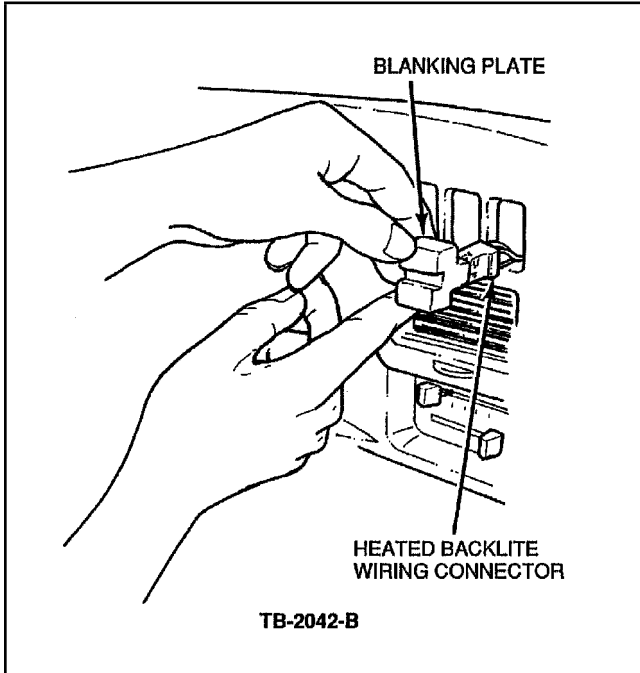

Figure 13 - Article 91-20-2
24. Gently ease heated backlite switch blanking plate from instrument panel, Figure 13.
25. Connect wiring, located behind previously removed blanking plate, to heated backlite switch and install switch, Figure 13.